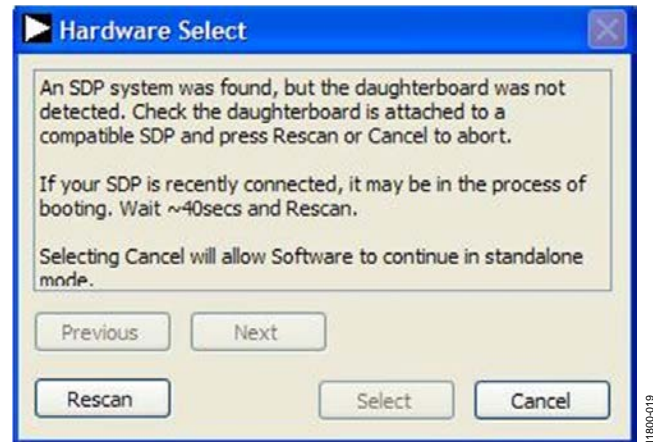

Figure 19. No Hardware Connected Pop-Up Window Error
2. The software automatically seeks to find the hardware connected; therefore, when no hardware is connected, a connectivity error is displayed (see Figure 19). If you wish to continue without hardware in standalone mode, click **Cancel**.